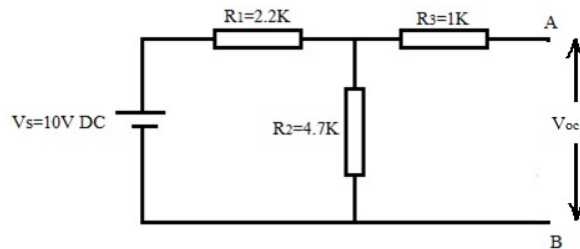

Figure 5
4. The DC supply is switched OFF and the Load R_L is removed Figure 5.
5. The DC supply is switched ON and the voltmeter is connected between the port A and B to measure the Thevenin voltage ($V_{th} = V_{oc}$) as shown in the Figure 5.